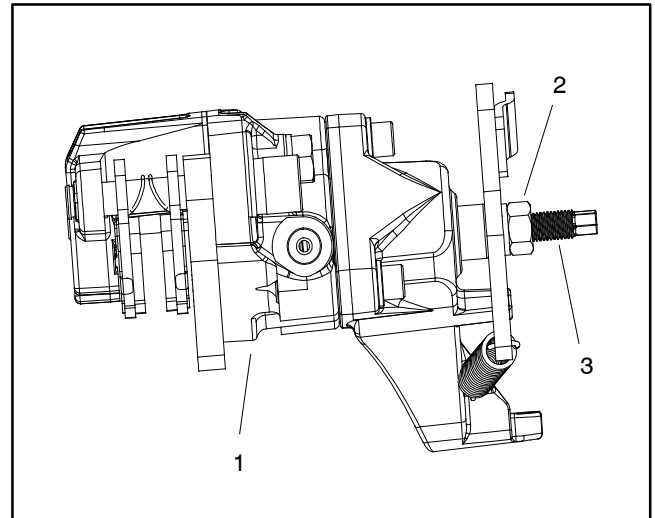

Figure 19
- A. Loosen lock nut on parking brake push rod and then unscrew the push rod that threads into the brake armature in the caliper (Fig. 19).
4. Secure brake pads to the caliper assembly with two (2) caliper slide pins. Make sure that the slide pins are inserted through the center of the anti-rattle springs. Tighten pins from **30 to 35 ft-lb (41 to 47 N-m)**.